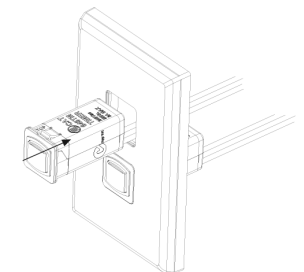

Figure 6: Mounting Timer
- Snap unit into a modular mounting plate as shown in figure 6.